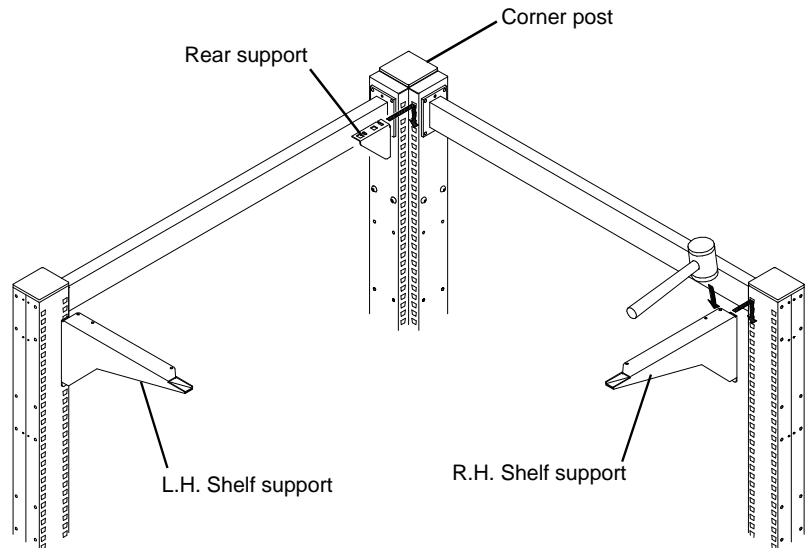

Figure 1
2. Install the **Rear Support**. Ensure that it is located at the same height as the right hand and left hand supports. See **Figure 1**.